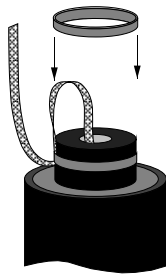

Figure 2
4. **See Fig.2** Gently bend the end of the Copperhead that protrudes from the nozzle into an "S". (Avoid sharply bending a Copperhead as a crack in the copper foil may occur if the igniter is straightened.) Use one of the two supplied red elastic bands to secure the igniter to the side of the nozzle. **NOTE:** 'E' motors will require "doubling" the elastic band to achieve a snug fit on the nozzle.